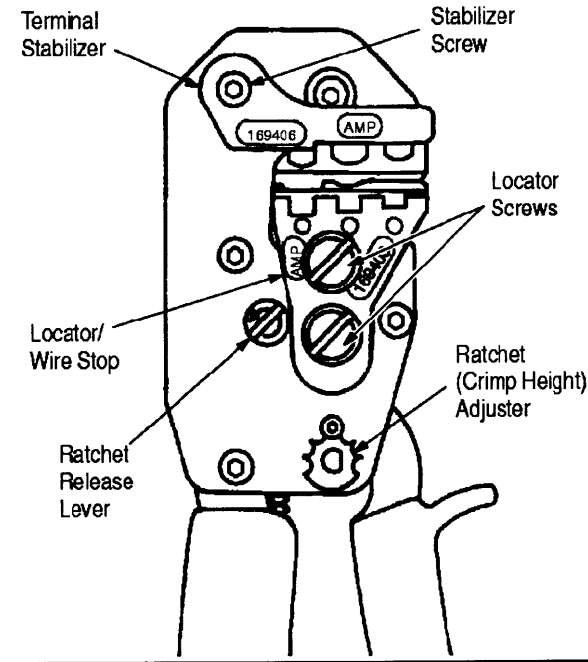

Figure 1
2. DESCRIPTION (Figure 1)
3.1. Locator (Figure 1)
3.2. Stabilizer (Figure 1)
In the event that the product is improperly positioned in the dies, or if the wrong die position was selected, release the ratchet by squeezing the tool handles slightly and turning the ratchet release counterclockwise (see Figure 1). Allow handles to open and then reposition product properly.